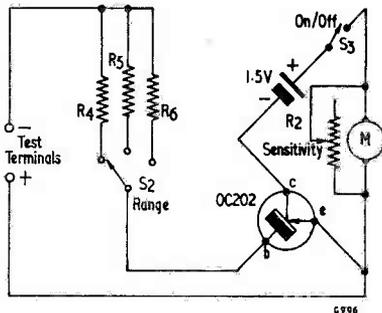
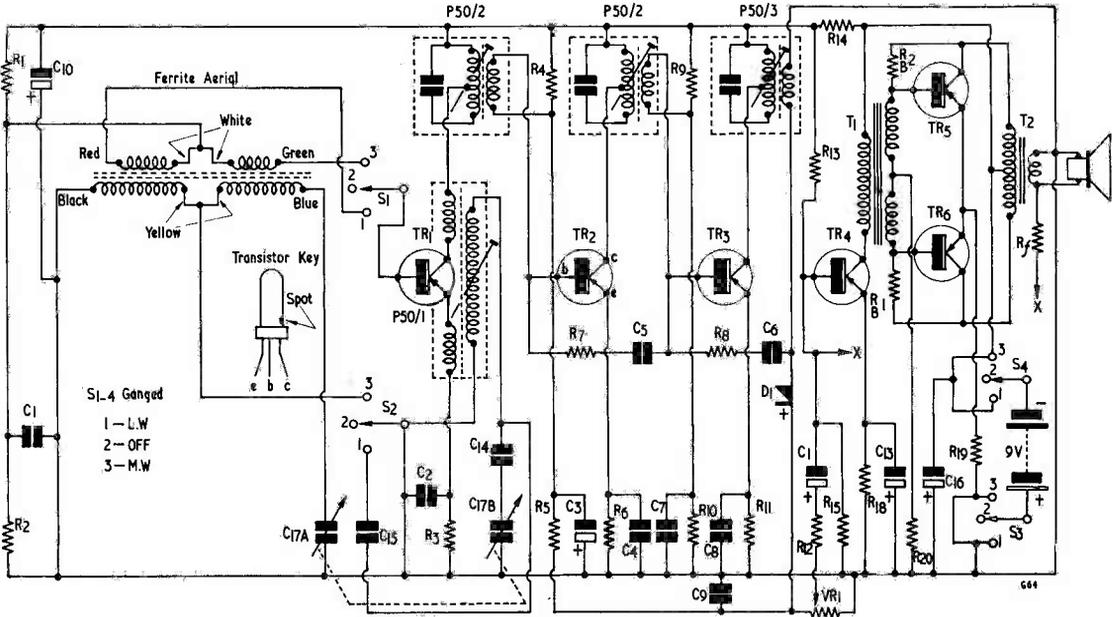

Fig. 6. A more simple circuit which requires a silicon transistor
Fig. 1. The theoretical Circuit of the Receiver
- (1) A range to measure up to 1,000 volts could be added. An extra position on the switch S_2 would be required and an extra resistor connected to the switch contact. The value of this resistor is $22M\Omega$, 5% for the version "A" or $150M\Omega$, 1% for version "B". Other intermediate ranges could be added if desired.
- (2) If an OC44, OC170 or OC171 transistor is used, the current gain is approximately doubled. A meter which is half as sensitive as those suggested could then be used or alternatively the values of R_4 , R_5 and R_6 could be doubled. This would double the impedance of the instrument.
- (3) An OC202 high gain silicon transistor (current gain = 70) could be used in the simpler type of circuit shown in Fig. 6. Silicon transistors have a negligible value of leakage resistance and therefore the part of the Fig. 1 bridge circuit which is used to balance out the leakage current of the transistor can be omitted. The modified circuit of Fig. 6 is easier to use, as no zero setting control is employed. Unfortunately high gain silicon transistors are still more expensive than equivalent germanium types.
- (4) A semi-conductor diode may be included in the input circuit so that measurements of alternating voltages may be made. The scale will require some modification by the inclusion of an extra resistor for alternating voltage measurements.
Components List (Fig. 1)